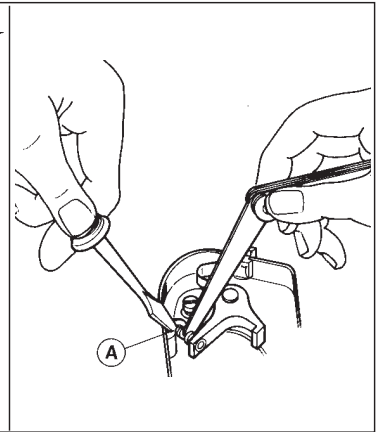

Fig. 11
- Insert feeler gauge and with the aid of a screwdriver fitted in slot 'A' (Fig 11), gently close points until a «drag» is felt on the feeler.